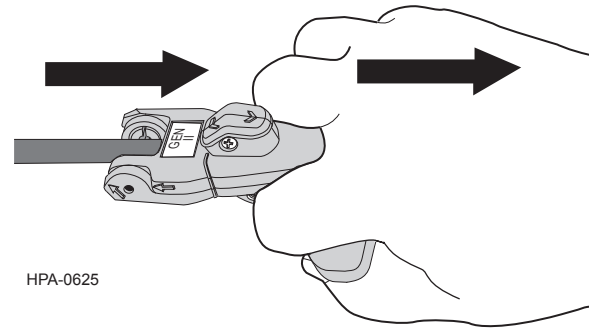

Figure 25
**Step 2:** Firmly hold the cable with one hand and use your other had to pull the tool along the cable until the tool is clear of the end of the cable (Figure 25).